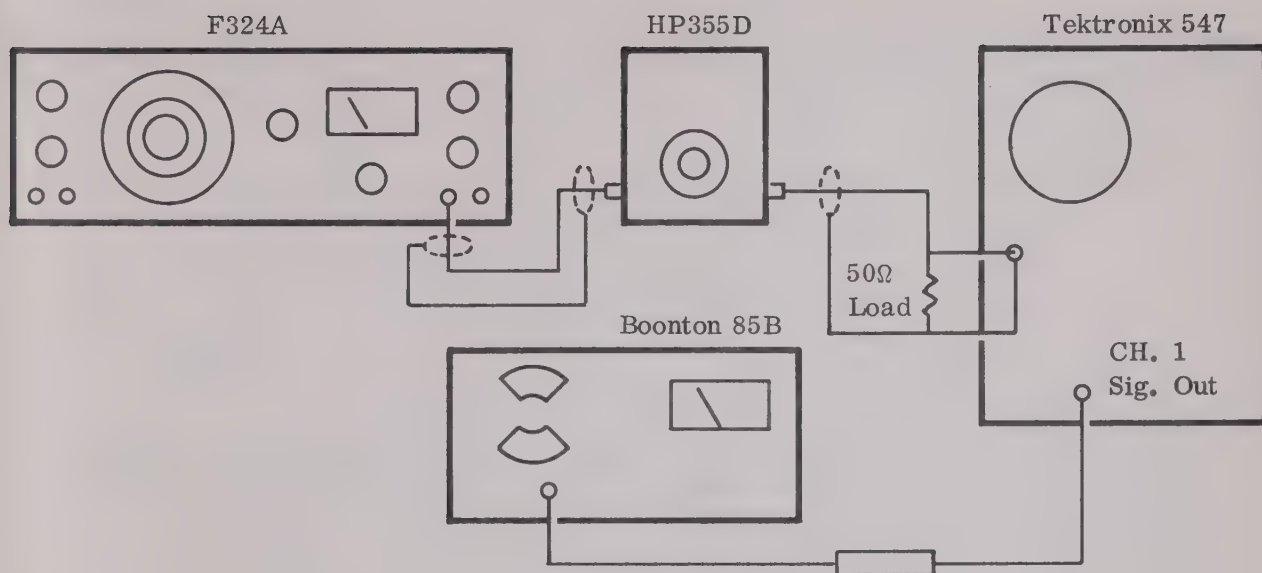

FIGURE 5-11
- j. Interconnect equipment as shown in Figure 5-11, observing signal and ground connections carefully.